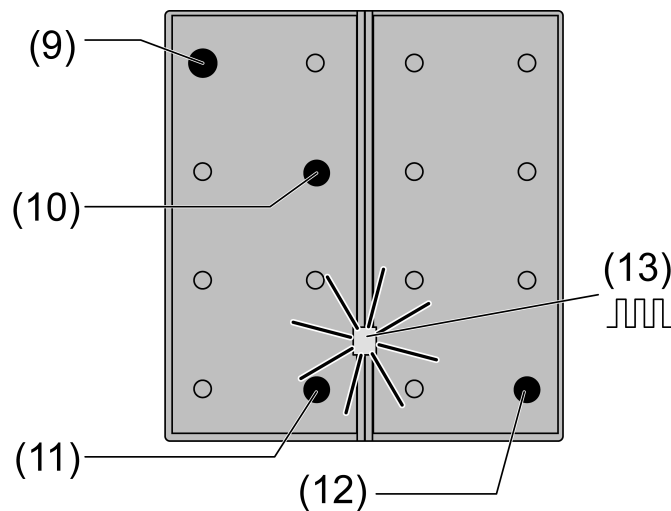

Figure 3: Activating programming mode
- Press and hold the button at the bottom left and the button at the bottom right (see figure 3), depending on the device version (1 ... 4-gang).
- Press and hold the button at the top left and the button at the bottom right (see figure 3) for more than five seconds until the operation LED flashes quickly (approx. 4 Hz), depending on the device version (1 ... 4-gang).